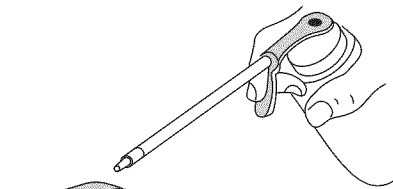

Fig. 16
4. Apply enough clean SAE 30 motor oil to lightly coat the filter (Fig. 16).